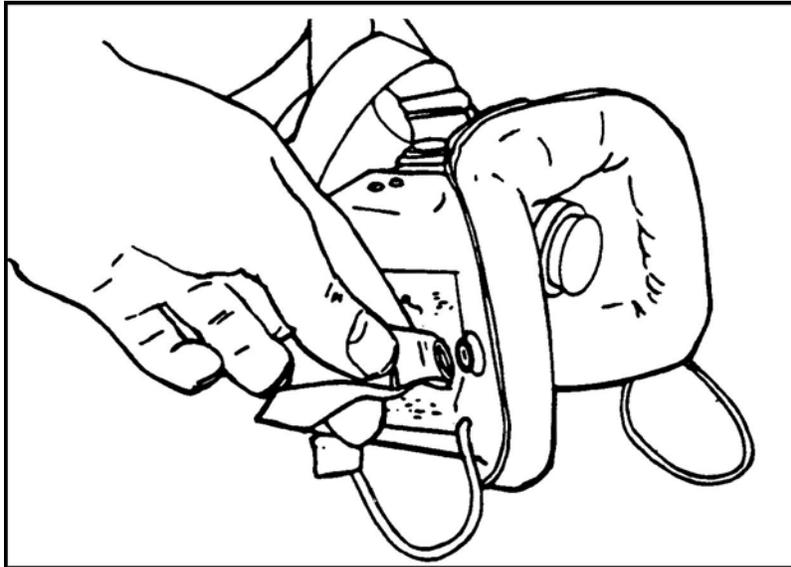

Figure 8. Removing headstrap assembly.
**CAUTION:** When removing the headstrap at the fastener, lift snap only at LIFT DOT (Figure 8) to avoid tearing the strap or breaking through the face mask. The white dot on the strap's button is the only place the button releases on its own. The LIFT DOT is not on the AN/PVS-5B headstrap.
- (1) Unscrew the battery caps.
- (2) Remove the BA-5567/U (lithium) battery or BA-3058/U (alkaline) batteries from the battery compartments.
- (3) Replace the battery caps.